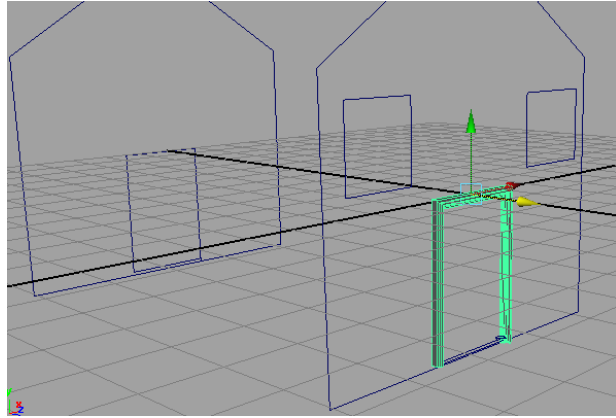

**Figure 3-116** The door curves detached
6. Select the lower right edit point of the duplicate door curve, and then choose **Edit Curves > Detach Curves** from the menubar; the curves are detached into two parts, as shown in Figure 3-116.